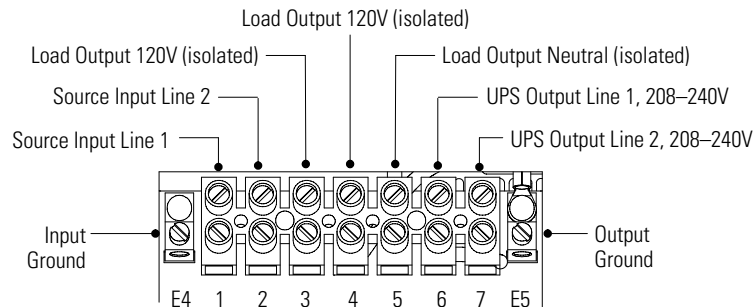

Figure 11. PPDM HW Model Terminal Block
- For the PPDM HW model, see Figure 11 and Table 2.